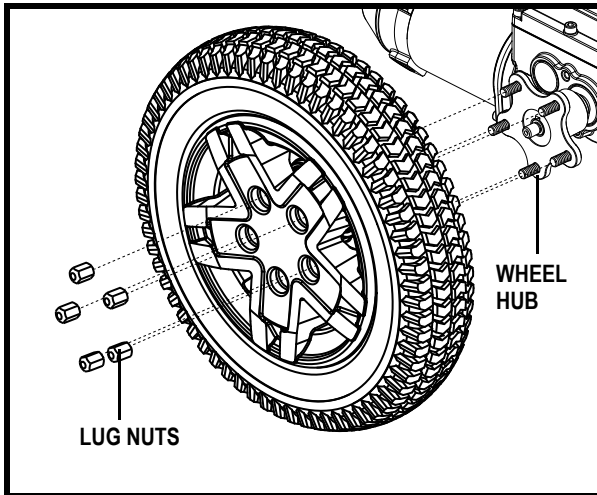

Figure 22. Quantum Q4 Drive Wheel
4. Remove the (5) lug nuts from the wheel hub. See figure 22.